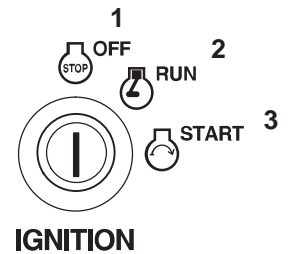

Figure 18
6. Turn ignition key to start to energize starter. When engine starts, release key (Fig. 18).
3. Let the engine idle for 60 seconds (Fig. 18).
4. Turn the ignition key to off (Fig. 18).